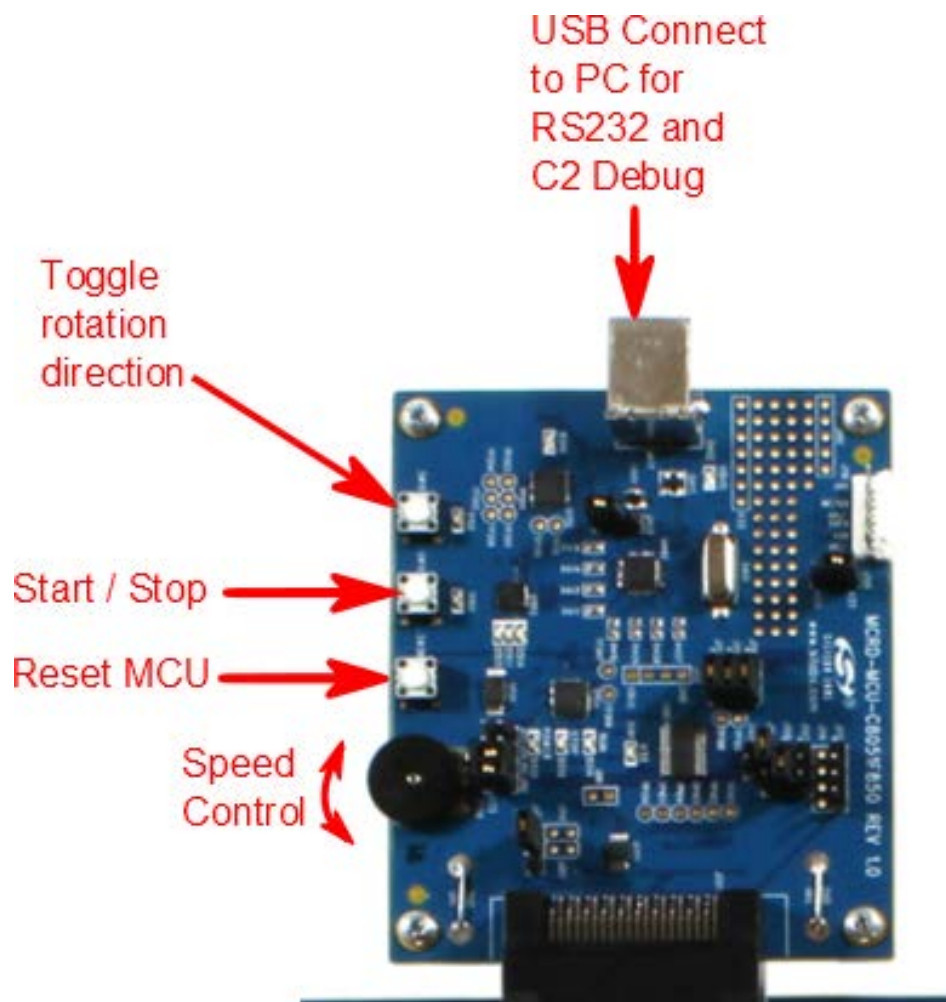

Figure 44. User Interface for Standalone Operation of BLDC Demo Kit
10. The user can also press the "Start/Stop" pushbutton on the board to stop the motor while the motor is running. Refer to Figure 44, "User Interface for Standalone Operation of BLDC Demo Kit," on page 55 for the location of this pushbutton on the board.
After these two parameters have been changed to match the motor specifications, the user can operate the motor using the Start/Stop button, Direction button and potentiometer as shown in Figure 44.